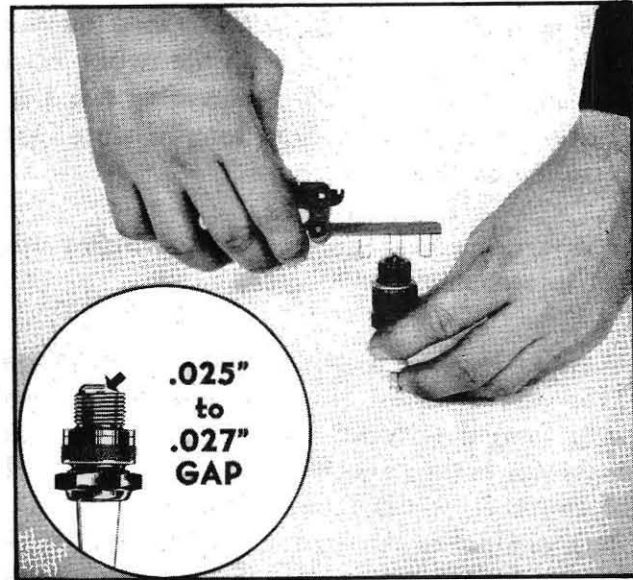

Fig. 221
2. Using a wire gauge as shown in Fig. 221, check the spark plug gap and set at .025-.027 in., check all plugs before installing. Just because the plug is new is no assurance that the gap is properly set.